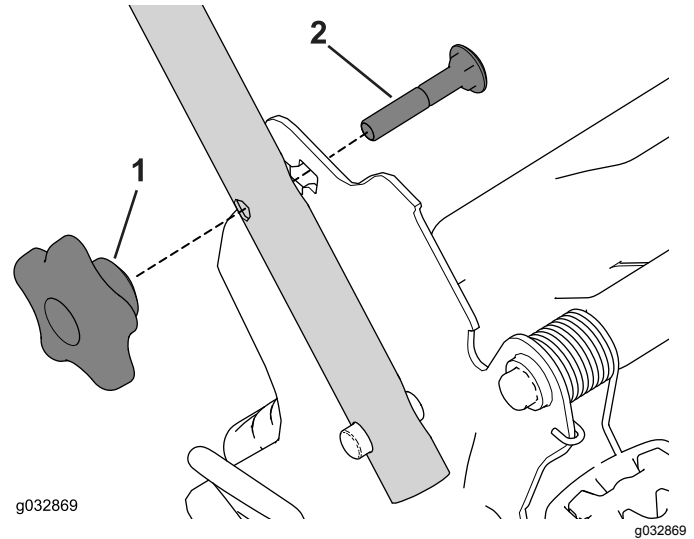

Figure 29
3. Insert the carriage bolt (with the bolt head toward the inside) through the handle bracket and the upper hole in the handle end. Ensure that the square edges of each carriage bolt fits into the upper or lower square hole in its related handle bracket (Figure 29).